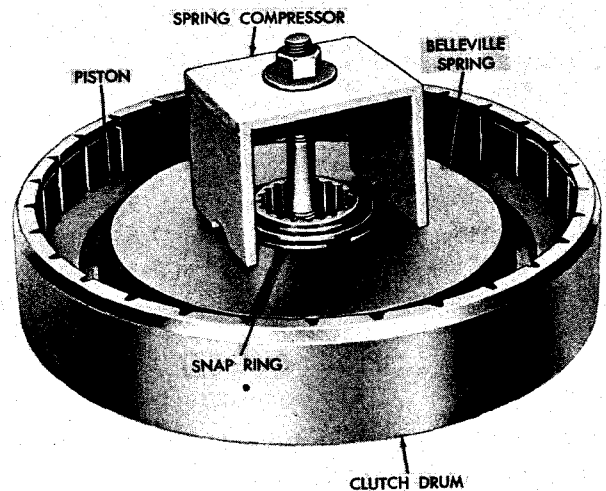

Fig. 6-14. Compressing low-splitter, or high-range clutch spring
(2) Install the improvised tool, shown in figure 4-3. Tighten the nut on the tool to compress the Belleville spring (fig. 6-14). Remove snapping 13 (A, foldout 12). Remove the tool, and remove spring 12.
(3) Remove sealring and expander assembly 24 (used prior to S/N 49007) or lip-type sealring 8 (used after S/N 49006), from drum 6. Remove piston inner seal ring 7 from drum 6 (refer to para 6-25).
(4) Remove two Teflon step-joint sealrings 1 from the hub of drum 6. Earlier models use hook-type sealrings in this location.
(5) Do not remove dowel pins 5. Do not remove collector ring 3 unless parts replacement is necessary.
(1) If collector ring 3 was removed, install a new ring as illustrated in figure 6-14.